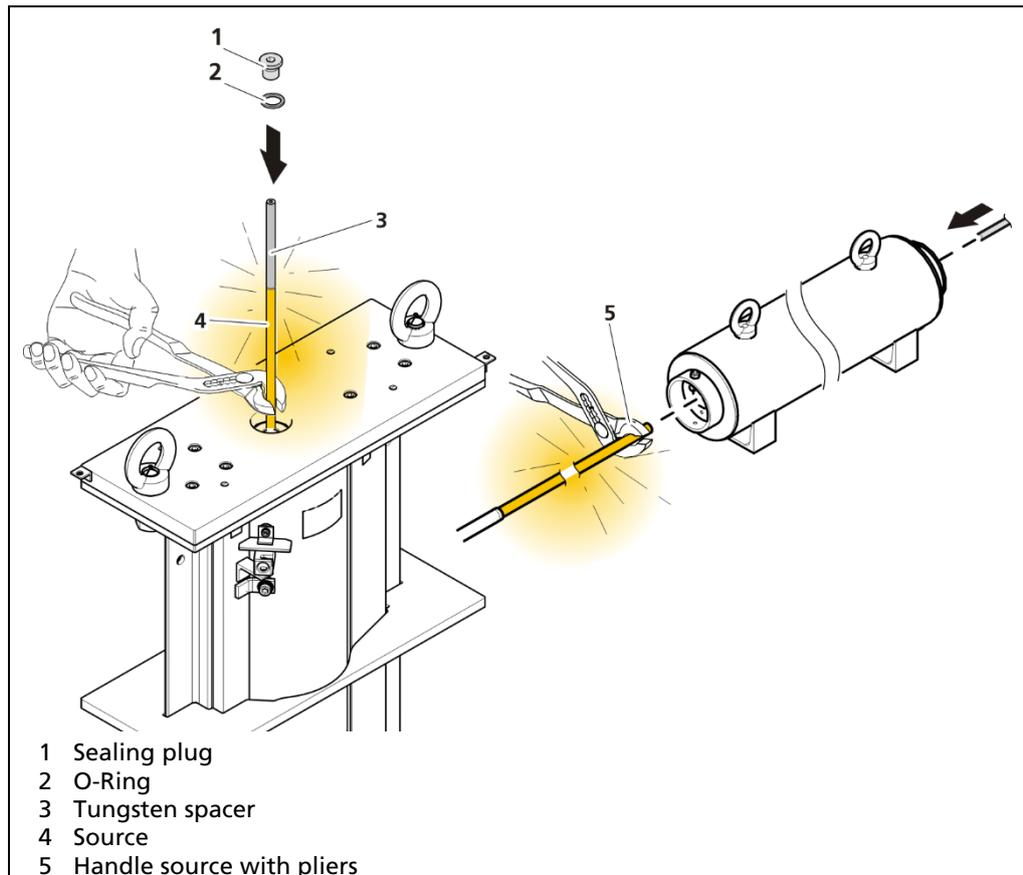

Fig. 15 Installing the source in the shield
6. Grasp the tungsten spacer (Fig. 15, item 3) and pull the rod source out of the transport shield with the pliers (Fig. 15, item 5).
8. Attach the O-ring (Fig. 15, item 2) and screw the sealing plug (Fig. 15, item 1).